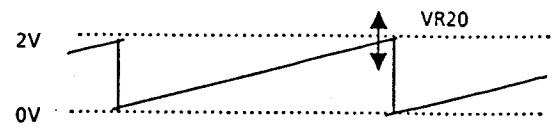

Fig. 4-25
- Adjust VR20 so that the peak level of sawtooth waveform becomes 2V p-p. (Fig. 4-25)